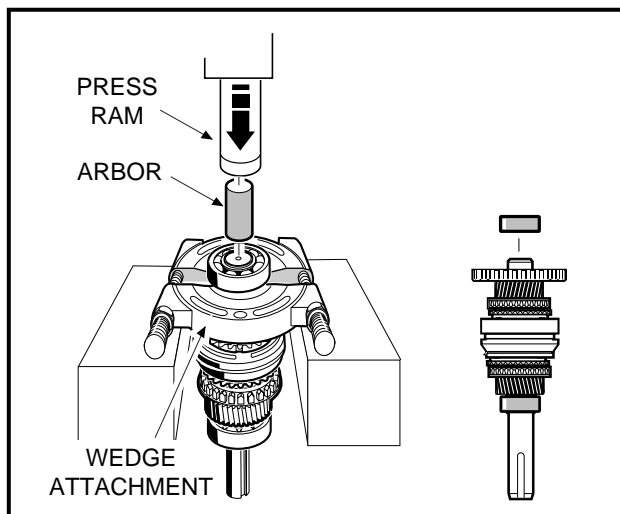

Figure 16-48 Remove Bearing
1. Place a bearing puller wedge attachment (Club Car Part No. 1012812) between the bearing (38) and spur (governor drive) gear (40) **(Figure 16-42, Page 16-18)**, then press the bearing off the input shaft as shown **(Figure 16-48, Page 16-21)**. See preceding CAUTION.